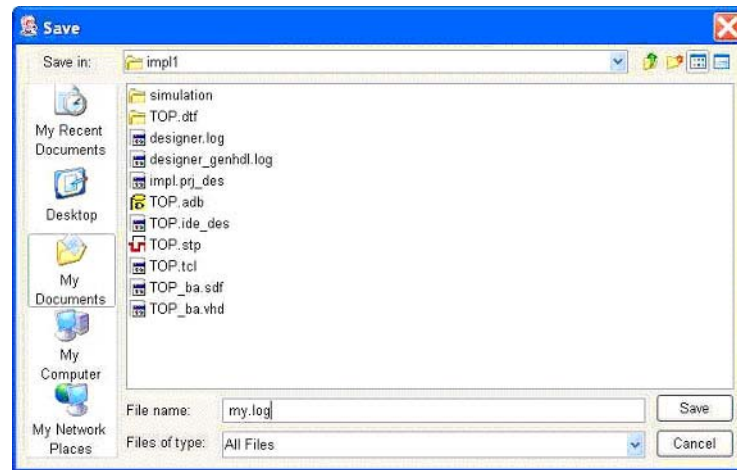

Figure 7-49 • Save Log File Dialog Box
1. From the File menu, click **Save Log**. The Save dialog box will appear, as shown in Figure 7-49.